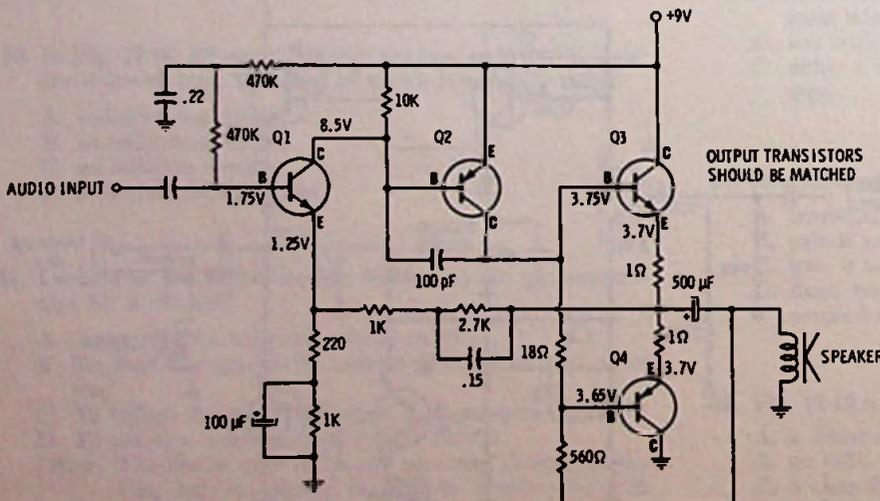

Fig. 12-21. Circuit for Questions 48 and 49.
48. In Fig. 12-21 is a TL circuit that uses an npn and a pnp output transistor so that out-of-phase signals do not have to be developed prior to driving the output stages. The transistors, judging from bias voltages are
49. In Fig. 12-21, if you shorted between the base and emitter of Q1, current through the emitter resistor of Q4 should